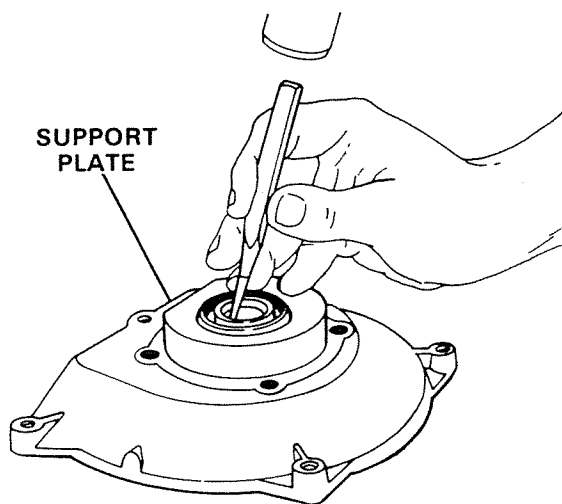

Figure 19. Removing Top End Seal.
- C. If seal is bad, remove with punch. Figure 19.